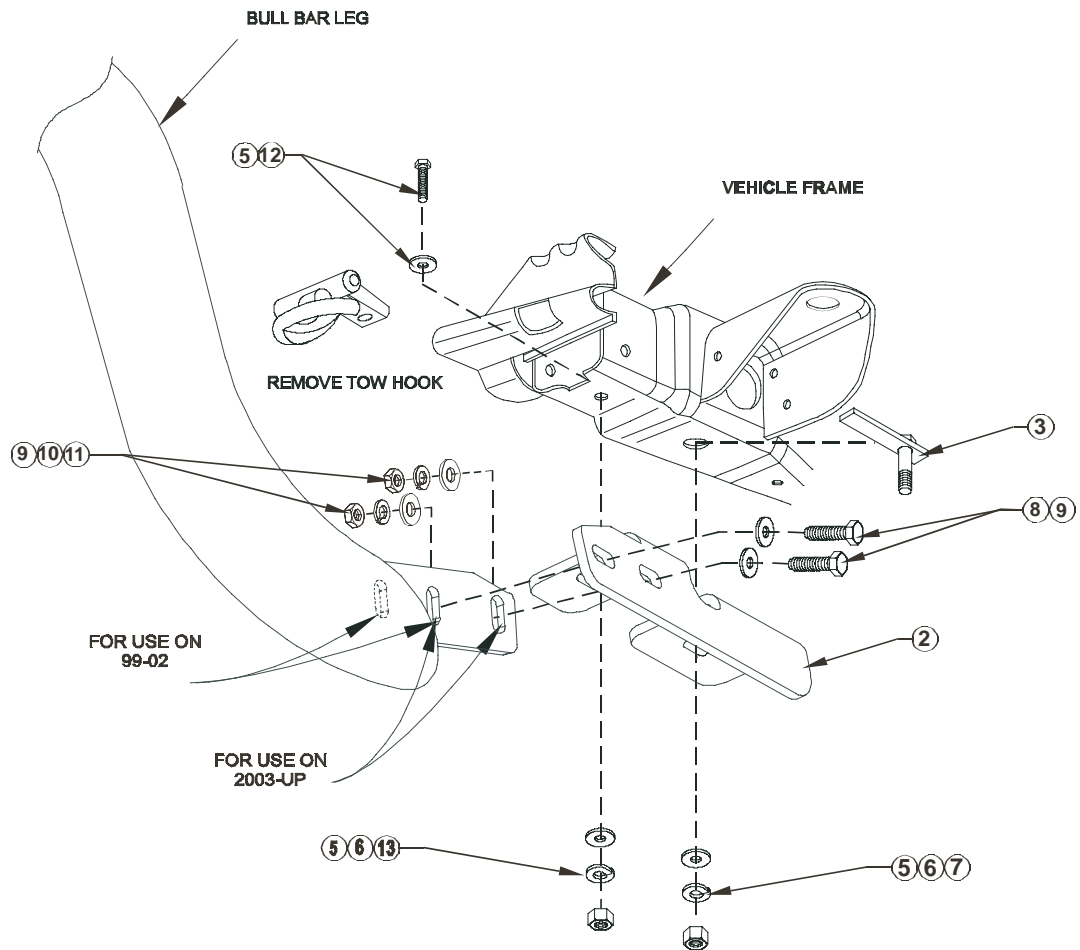

FIGURE 1 DRIVER SIDE INSTALLATION SHOWN, PASSENGER SIDE OPPOSITE
2. Determine passenger and driver brackets. From underneath vehicle, remove tow hooks. Insert bolt plates through large holes and M12-1.75 x 40mm hex head bolts through small holes in bottom frame locations. **SEE FIGURE 1.**
4. Attach Bull Bar to brackets using 3/8" fasteners as shown. **NOTE:** 1999-02 models use front and middle holes on the hoop mounting brackets. 2003-UP models use middle and rear holes. **SEE FIGURE 1**